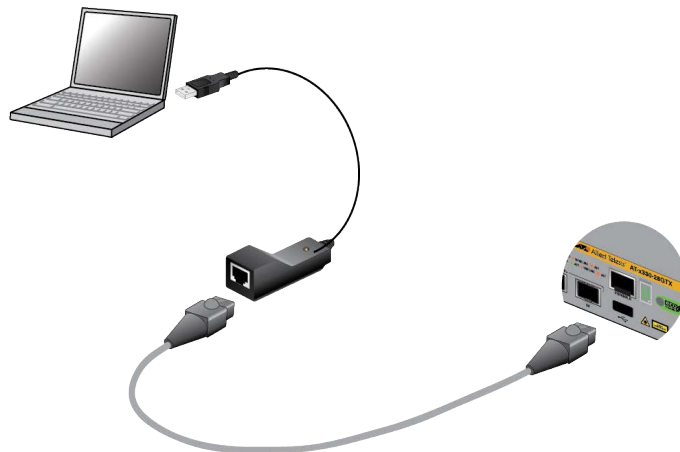

Figure 65. Local Management Sessions with the VT-Kit3 Management Cable
- If your computer has a USB port, use a USB-to-Serial converter. To use the VT-Kit3 from Allied Telesis, connect the USB connector on the VT-Kit3 to a USB port on your computer or terminal. To connect the kit to the Console port on the switch, use a standard, straight-through Ethernet cable. Refer to Figure 65.